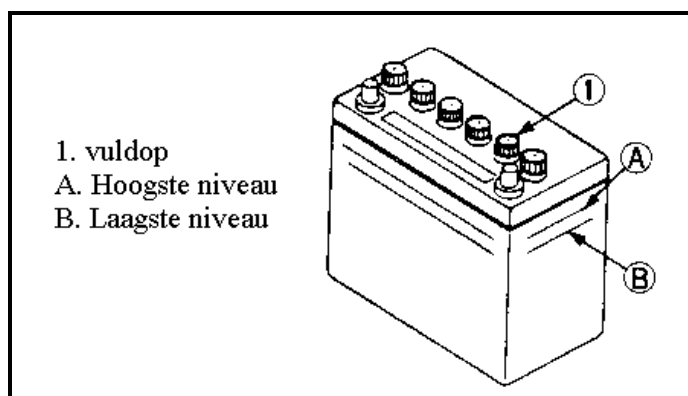
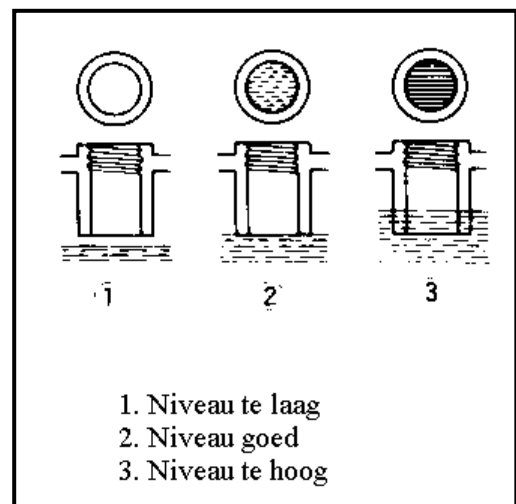

Figure 6.7 | The battery
Figure 6.8 | The level of battery acid
4. Turn the filler opening and check the liquid level and refill it if necessary (see Figure 6.7 and Figure 6.8)